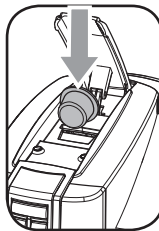

Fig. 2
- 3- Insert a capsule as shown in the figure (Fig. 2).